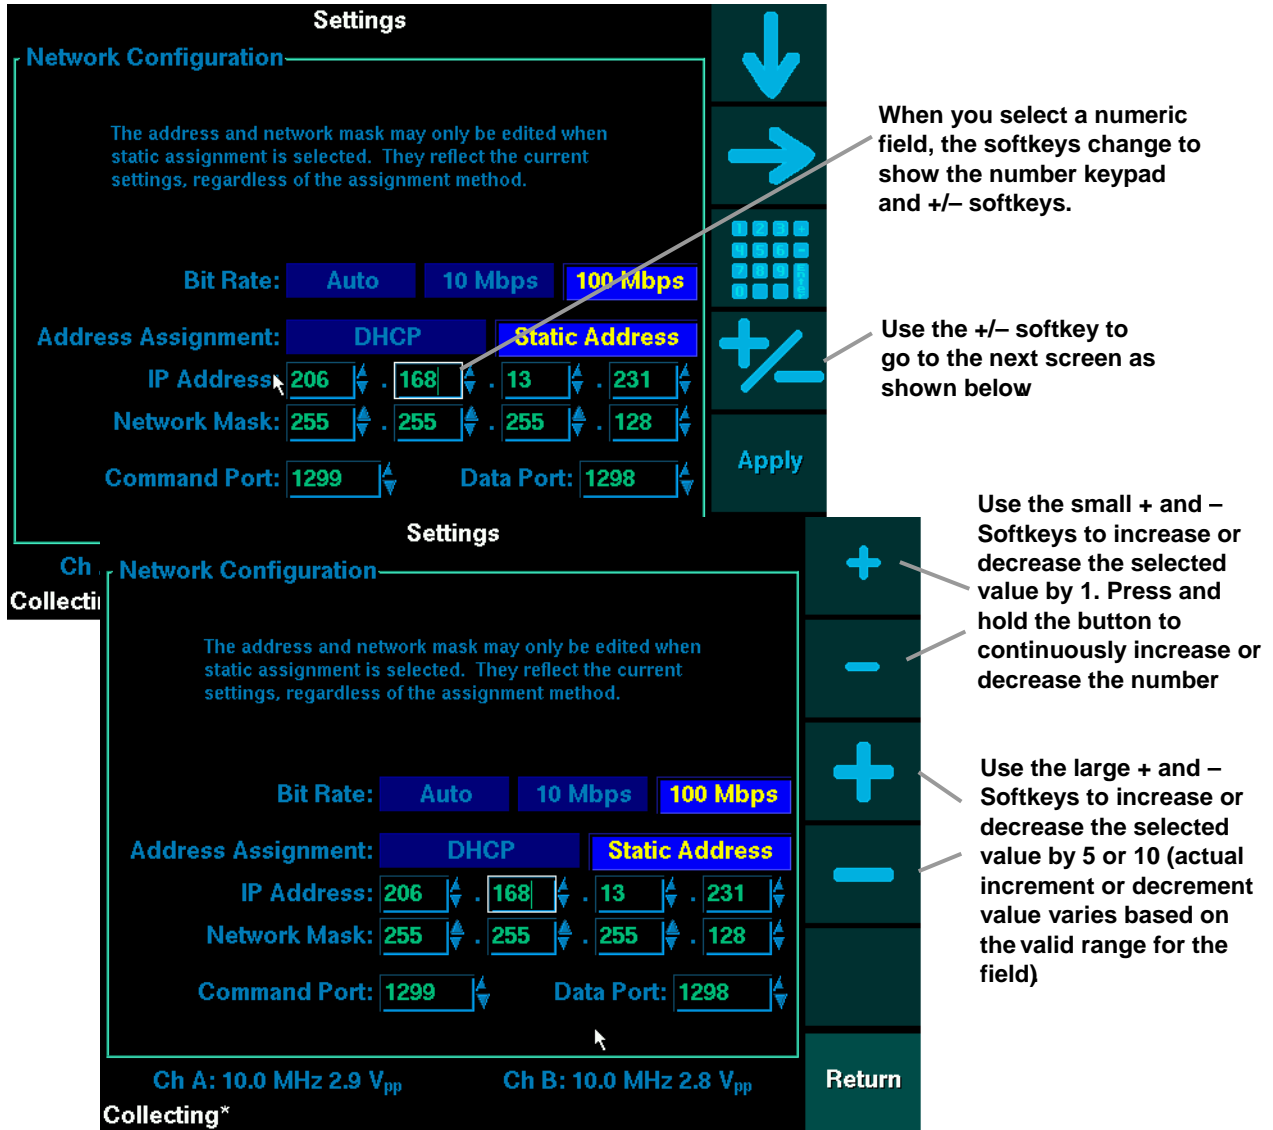

Figure 5: Entering a number using the softkeys
- Using the + and – softkeys (see Figure 5)
Figure 5 shows an example of how to enter a number using the + and – softkeys.